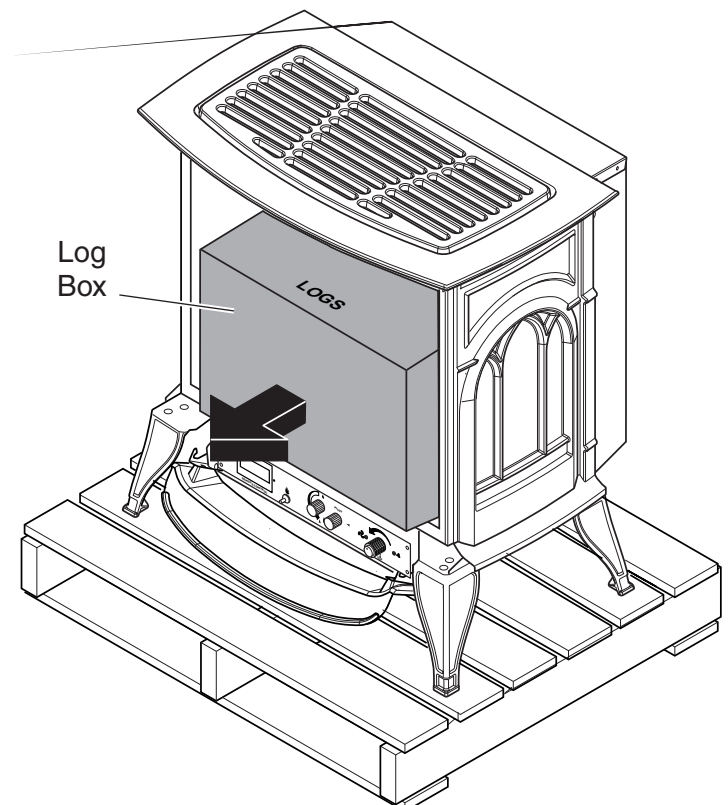

Figure 9 - Removing Log Box
3. Lift up on ash lip and pivot down to open control door. See Figure 9.
4. Lift up on front. Pivot bottom of front out. Remove front. See Figure 9.